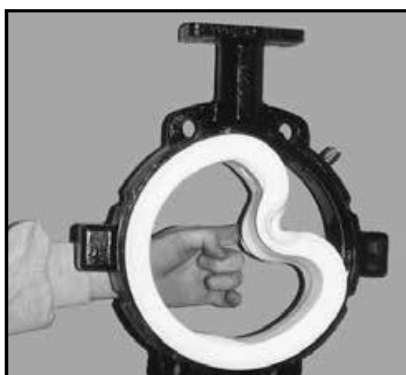

Fig. 6
13. Install the lower bearing (F) in the housing. This bearing may be either a "cup" or a "sleeve" depending upon valve size and bearing material.
14. Install the retaining ring (G), upper bearings (C) and shaft seals (E) as shown in Section 8.1. Some butterfly valve sizes have 3 bearings and shaft seals. Consult the exploded view drawing included with the repair kit.
15. Install the seat (A) into the middle of the housing (B) by attaching the seat to the lip of the housing making sure the seat shaft hole is aligned with the housing shaft hole.
16. Continue attaching the seat (A) to the housing (B) by gradually working the seat over the housing lip (see Fig. 6).